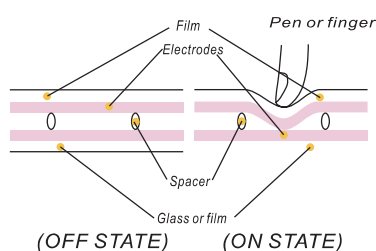

Fig2
- The touch panel has as numerous push-button switches as the keys arranged in a matrix (see fig 2). To locate the x and y coordinates, voltage  $v_x$  taken from the y electrode and voltage  $v_y$  taken from the x electrode are converted into digital data and assigned coordinates (see fig 3).